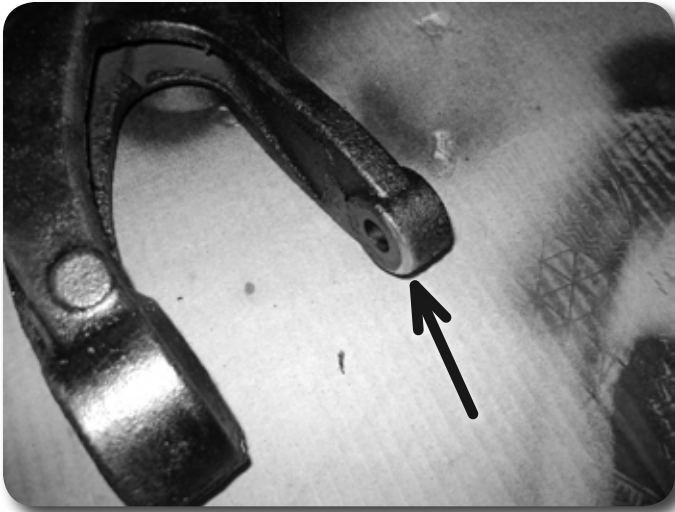

Figure 29B
46. Install the lower control arms in the front and rear crossmembers. Attach the control arms to the front crossmember with 5/8" x 5-1/2" bolts, nuts and 5/8" SAE washers. Run bolt from front to back. Fasten the control arm to the rear crossmember with the factory bolt, run back to front. **Figures 29A**. Leave hardware loose. It may be helpful to bevel the edge of the rear control arm "leg" to aid installation over the bushing/washers at the rear crossmember. **Figure 29B**